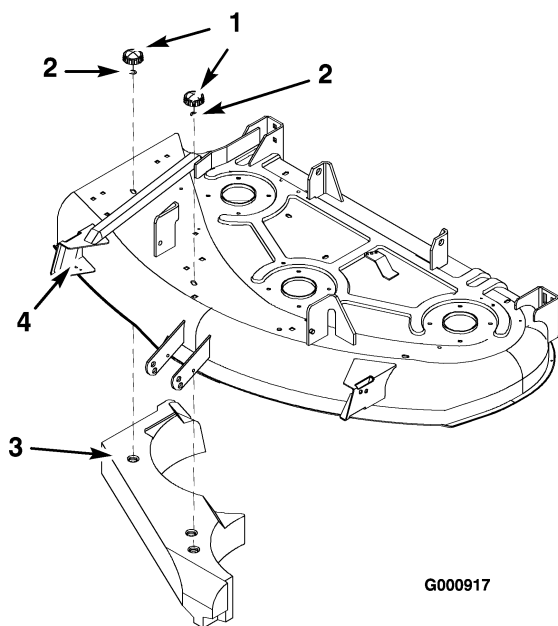

Figure 18
2. Remove the knobs from the top of the mower deck securing the right side baffle (Figure 18).
3. Lift the baffle and slide it out of the interlock with the left side baffle (Figure 18).
4. Install the bolts (5/16 x 5/8 inch) and locknuts (5/16 inch) from the baffle in the open holes of the mower for safety (Figure 18).
2. Remove the bolts and nuts in the holes needed for the baffle (Figure 18).
4. Place the right side baffle inside the cutting chamber so the extended lug interlocks with the left side baffle (Figure 18).
5. Secure the baffle with the curved washers and knobs removed previously (Figure 18).